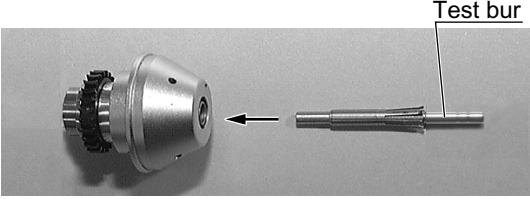

Fig.18
- (5) Apply oil thinly on the surface of the new chuck or the chuck after cleaning, insert the test bur and push into the rotor shaft. (Fig.18)